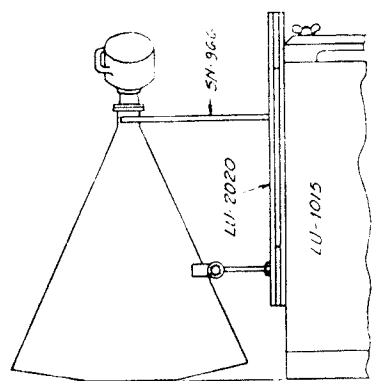

FIG. 1
1. H.F. HORN IS MOUNTED ON TOP OF LU-2020 CRADLE (SEE FIG. 1) BY SECURING HORN EARS TO EYE BOLTS WITH TWO 5/16 X 1 1/4 LONG BOLTS.